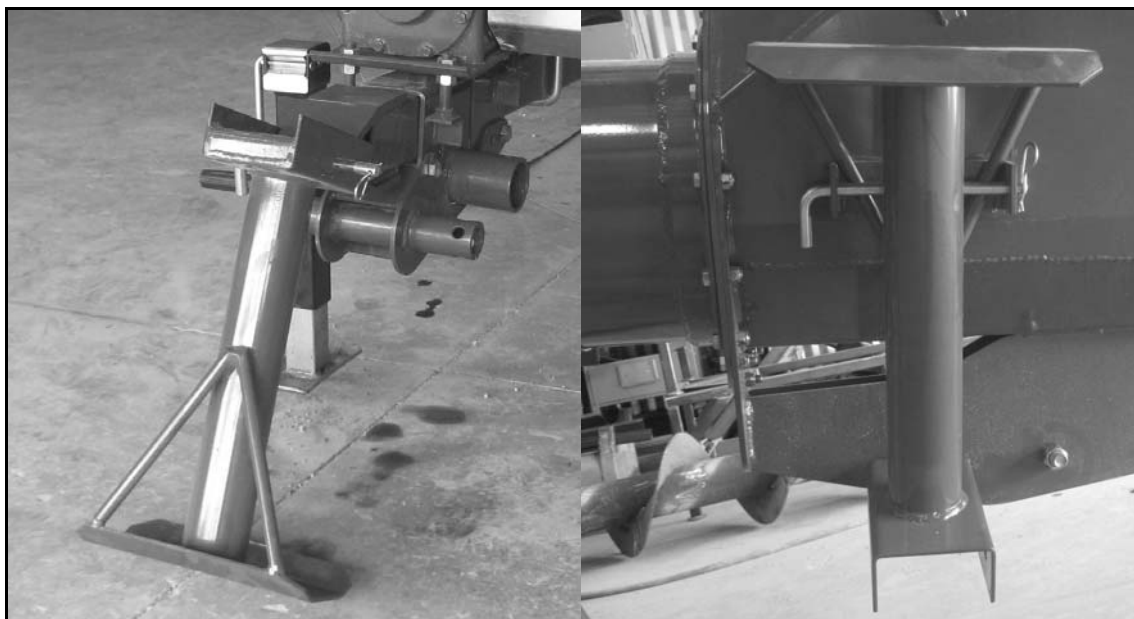

Figure 5.4 Right Angle Drive Support Leg Working (left) and Storage Positions (right)
5. Attach the support leg as shown in Figure 5.4, and secure with pin and hairclip.